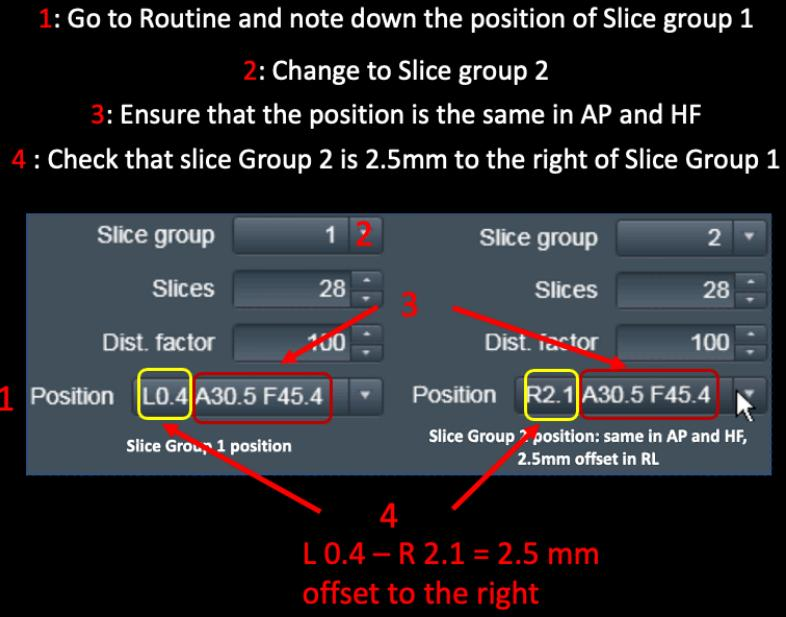

Figure 4. Positioning of the two slice groups for turboFLASH scans.
- Make sure that you position BOTH slice groups. The two slice groups should have the same Position information in the anterior-posterior and head-foot directions, with slice group 2 being offset by the slice thickness, 2.5mm (see example in Figure 4).